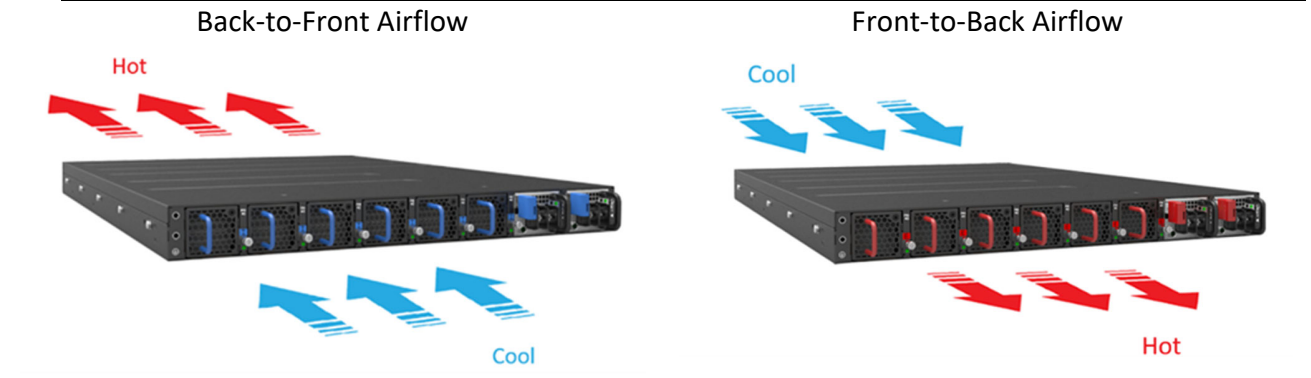

Figure 3.
- Cooling: The S9301-32DB has two options for airflow direction. There is a back-to-front option (Figure 3) and a front-to-back option (Figure 3. Right). Make sure the equipment on the same rack have the same airflow direction.